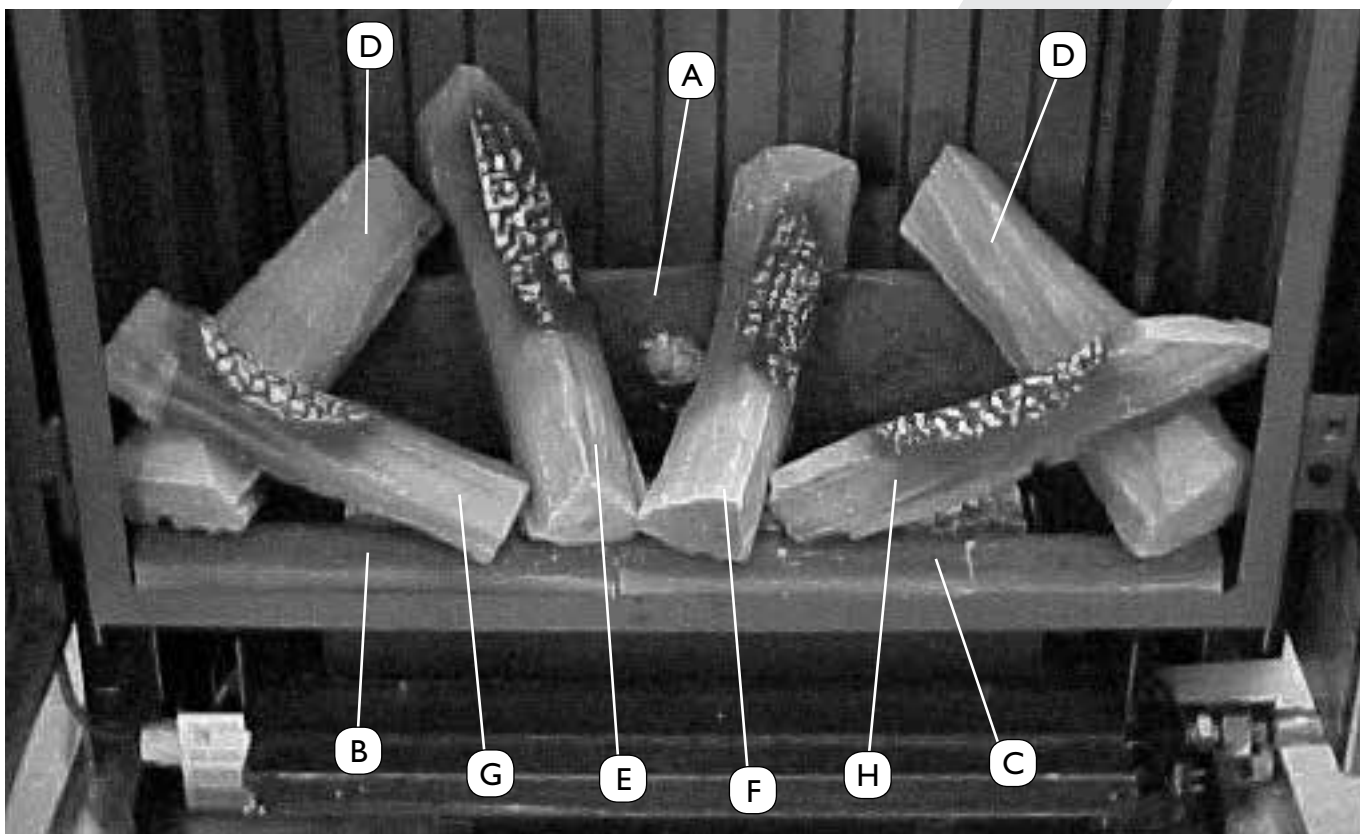

fig. 4b
- Lay the large log (A) against the back wall, on the log supports, with the yellow side down and the knot towards the left.
- Lay the front logs (B and C) with the bark facing up, as illustrated in fig. 4b.
- Now lay the rest of the logs (D, E, F, G and H) in place as illustrated in fig. 4b.